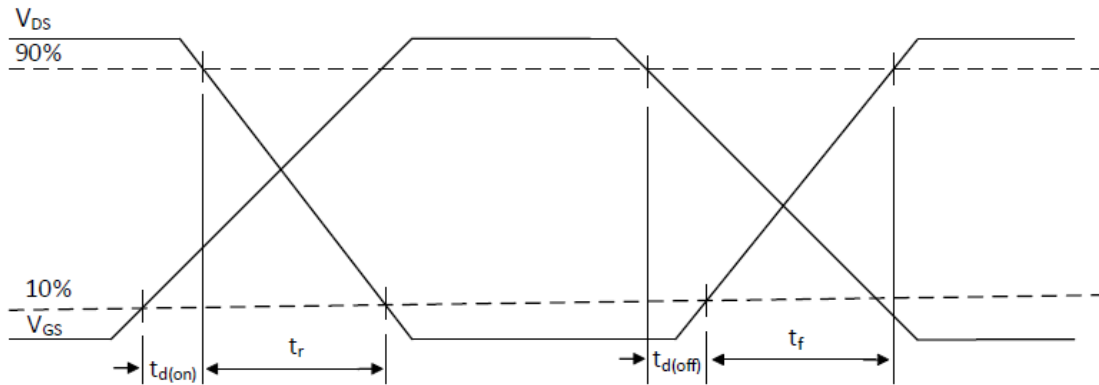

Figure 17: Switching Time Waveforms
- (8) See Figure 17 for switching time definition waveforms.
- (9) L_p = parasitic inductance.